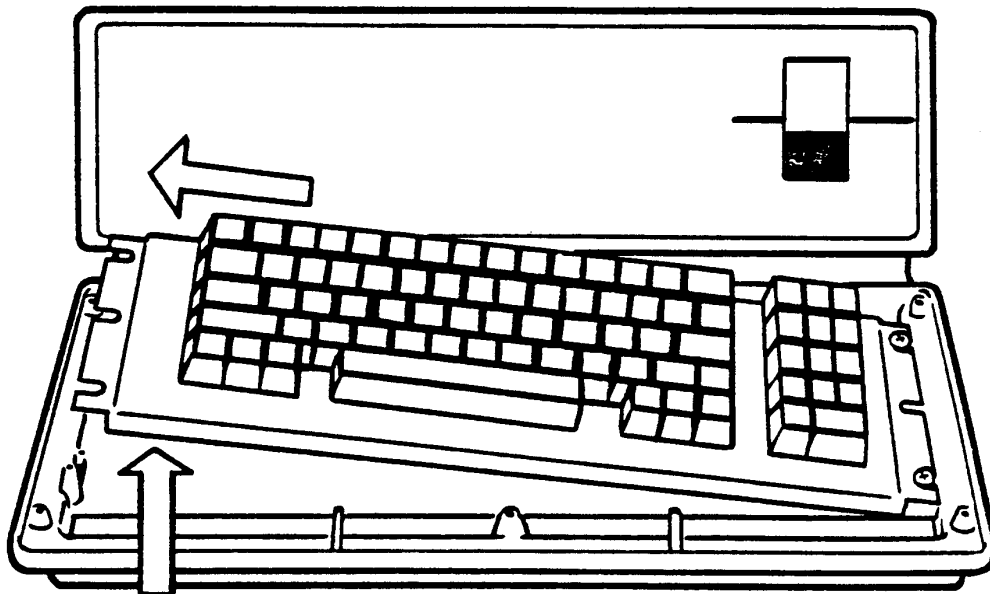

FIGURE 3.3
7. Remove the keyboard by lifting the left end and sliding the right end from under the loosened screws. Refer to Figure 3.3.